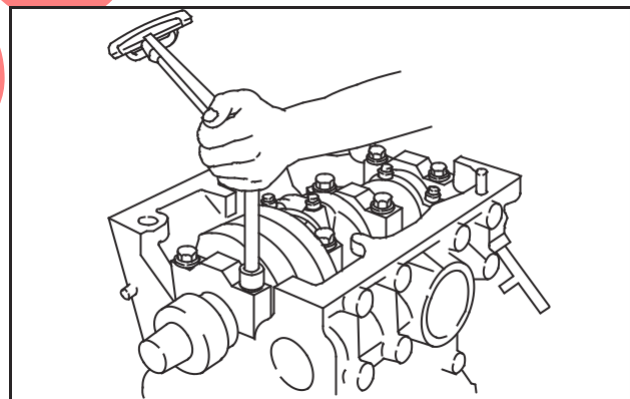

Fig. 5 – Torque Bearing Cap
2. Assemble main bearing cap with bearing and torque to 58.3 Nm (43 ft. lbs.), Fig. 5.